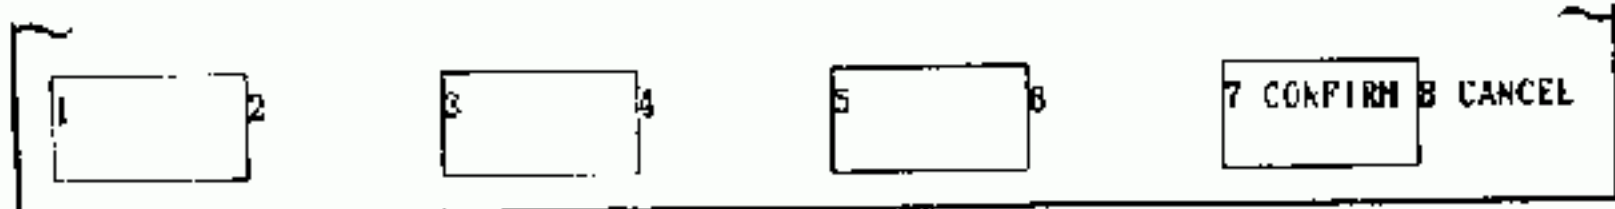

Fig. 5.2.27
6. If output in the same station is used as its input, "ERROR : CAUTION : THE OUTPUT IN THE SAME STATION" is displayed and label display shown in Fig. 5.2.27 appears. If the allocation is OK, depress "CONFIRM," and not OK, depress "CANCEL."